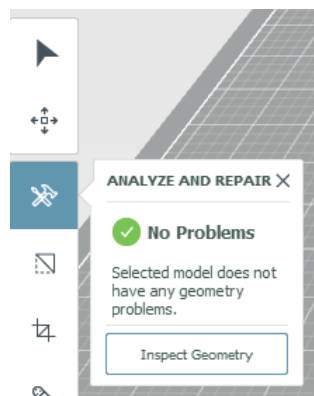
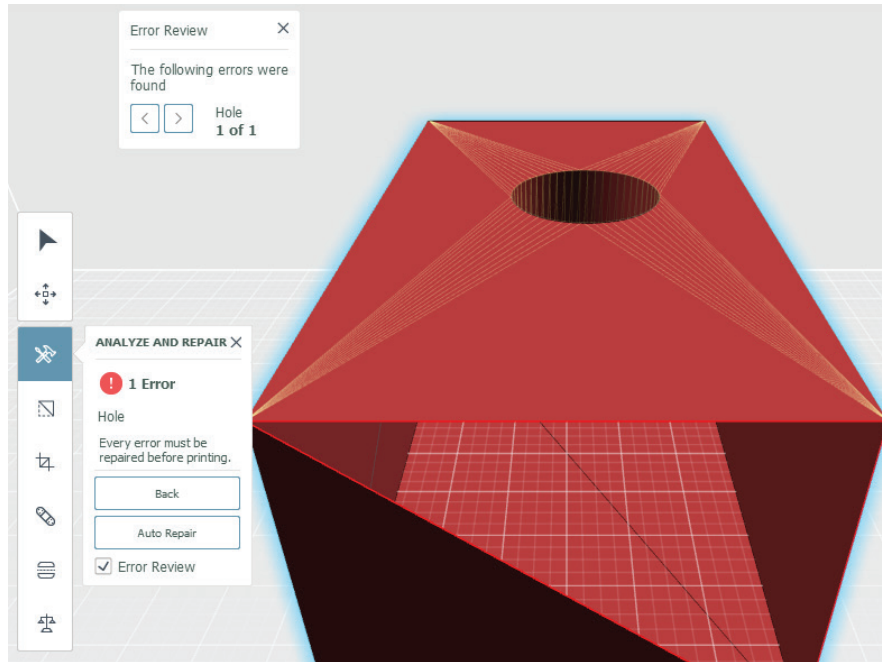

Figure-46. Repair in Print Studio
Figure-47. Finding and repairing errors
After setting the parameters of **Layout** tool, next step is to repair the model. On selecting the **Repair** tool from **Toolbar** section, a repair tool box will be displayed at the left of screen. This tool detects the model issues like holes and other geometry defects cannot be printed by 3D printer. You can resolve these issues manually or automatically. When issues are resolved, this tool display a notification i.e. **No Problems**; refer to Figure-46.
- Click on the **Find and Repair** button  to automatically find and repair faults in the model. The **ANALYZE AND REPAIR** toolbox will be displayed; refer to Figure-46. Click on the **Inspect Geometry** button from the toolbox to find problematic areas. The problematic areas will be highlighted in the viewport; refer to Figure-47. Click on the **Auto Repair** button to automatically repair the model.